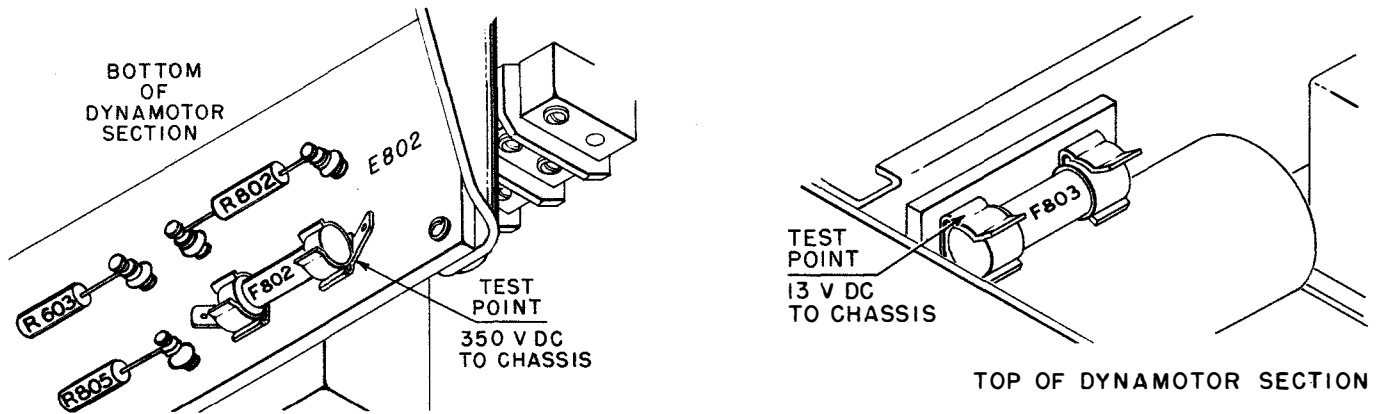

Figure 5-3. Fuse Failure Check Points
(2) FUSE FAILURE.—See Figure 5-3.